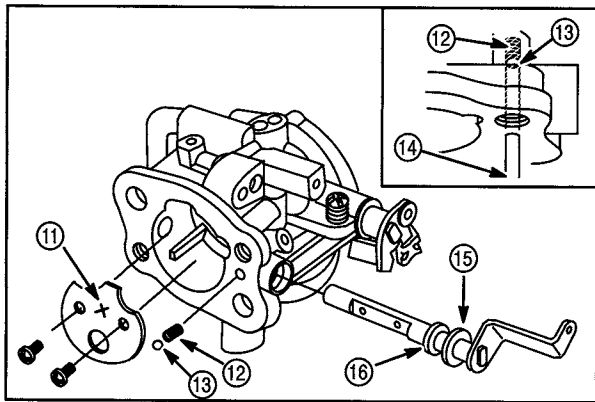

**Fig. 52**
3. Install new throttle shaft seals (4) with sealing lip out, **Fig. 52**.
4. Install throttle shaft with foam seal (10) and spacer (9).
5. Install foam seal (6) and retainer (5).
6. Install throttle plate (7) with numbers down.
**NOTE:** Use LOCTITE® 222 on screw (8) threads.